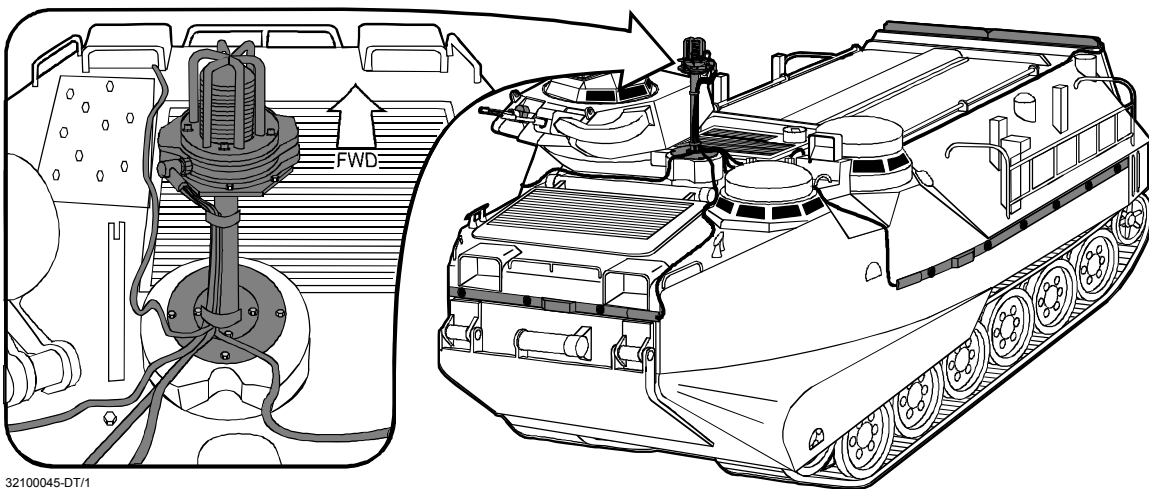

Figure 2-11. KSI Installation.
- d. Remove the four (4) 3/4" bolts from the ventilator aspirator on top of the vehicle, and keep them with you. (See Figure 2-11.)
- e. Route this segment (P3-green sleeve) to the KSI. Connect (P3) to (J1) of the KSI. (See Figure 2-11.)